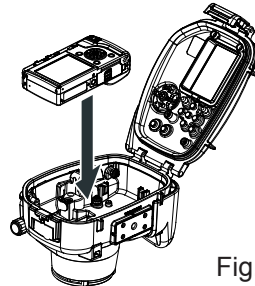

Fig.1
1. Install the 1G camera to the housing as shown in Fig.1.